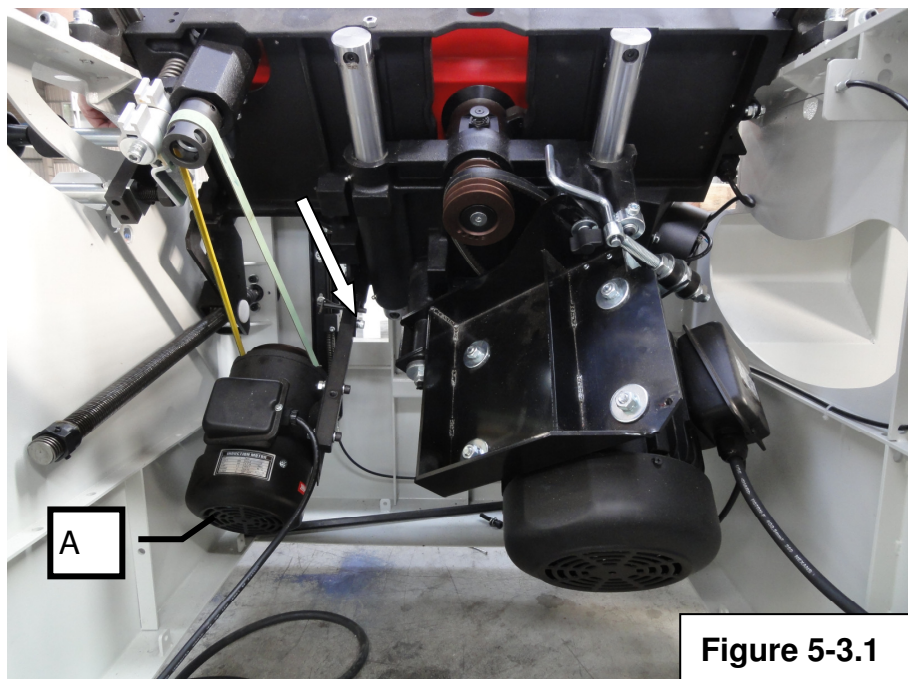

Figure 5-3.1
2. Lift the small motor A (Fig. 5-3.1). When the belt is slack, it can be replaced